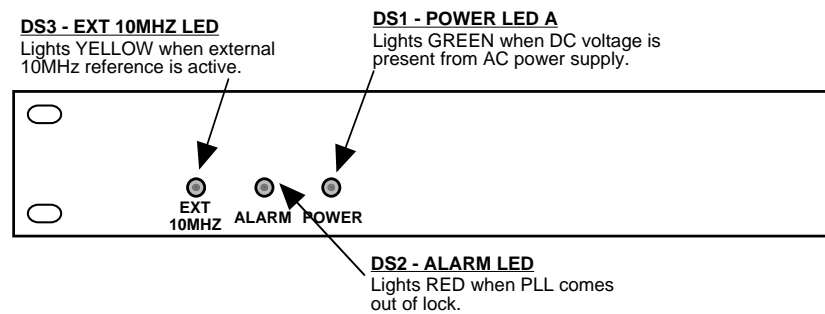

FIGURE 2.2 2116-84T78 Front Panel Controls and Indicators
Figure 2.2 shows the front panel indicators.
4. Be sure DS1 (green, DC Power) is on and DS2 (red, Alarm) is off (Figure 2.2).
6. If EXT is selected or AUTO is selected and there is a 10MHz, 3 dBm signal at J2, check that DS3 (yellow, Ext 10MHZ) is on (Figure 2.2).